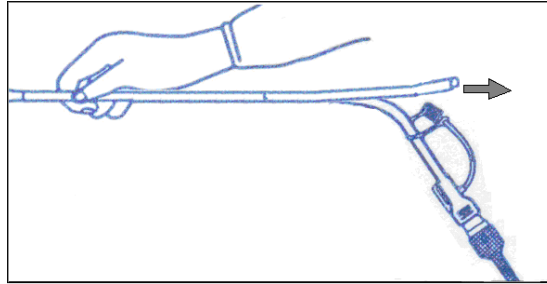

Figure 7-4 Remove the introducer
- 9) Anchoring the catheter in place with one hand, pull the introducer straight back off the catheter. (See figure 7-4)